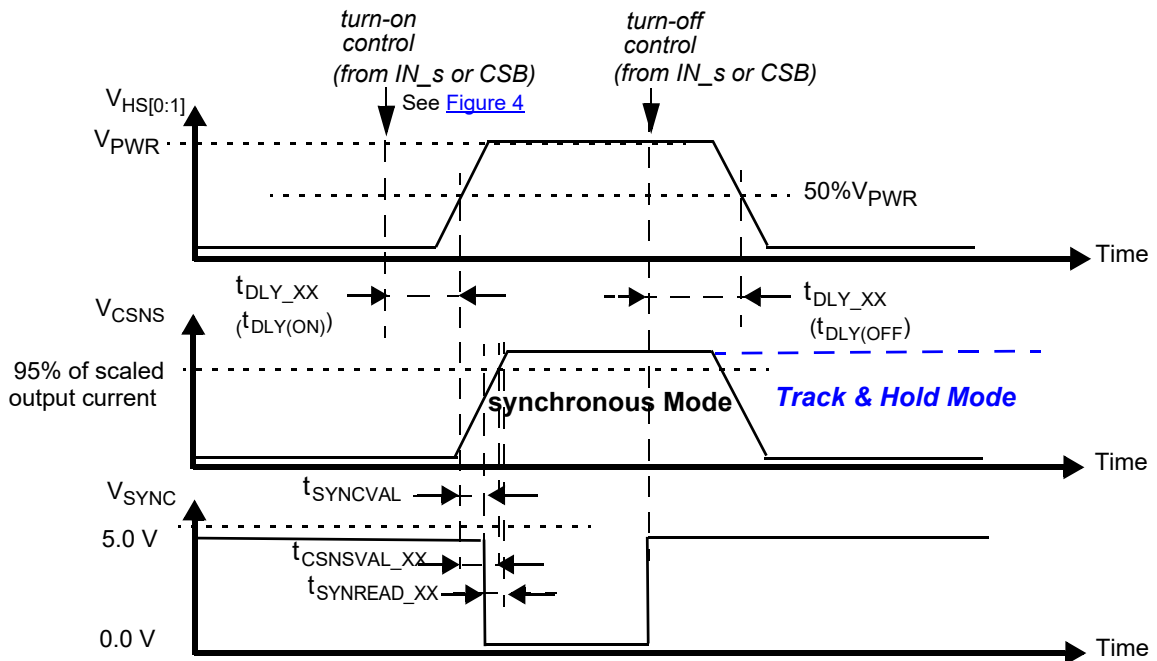

Figure 9. Synchronous and track-and-hold current sensing modes: associated delay and settling time
29. Time required to switch off the channel after detection of overtemperature (OT), overcurrent (OC), SC or UV error (time measured between start of the negative edge on the FSB pin and the falling edge on the output voltage until $V(\text{HS}[0:1]) = 50\%$ of V_{PWR}).
30. Settling time ($= t_{CSNSVAL_XX}$), SYNC output signal delay ($= t_{SYNCVAL_XX}$) and Read-out delay ($= t_{SYNREAD_XX}$) are defined for a stepped load current ($100\text{ mA} < I(\text{LOAD}) < I_{OCLX_A}$ FOR $\text{CSNS_RATIO_S} = 1$, AND $300\text{ mA} < I(\text{LOAD}) < I_{OCLX_A_0}$ FOR $\text{CSNS_RATIO_S} = 0$). See Figure 9 and Output current monitoring \(CSNS\).
The CS pin allows independent current monitoring of channel 0 or channel 1 up to the steady-state overcurrent threshold. It can also be used to sense the device temperature. The different functions are selected by setting bits CSNS1_en and CSNS0_en to the appropriate value (Table 23). When the CSNS pin is sensed during switch-off in the (optional) Track & Hold mode (see Figure 9), it outputs the scaled value of the load current as it was just before turn-Off. When several devices share the same pull-down resistor, the CSNS pins of devices the current of which is not monitored must be tri-stated. This is accomplished by setting CSNS0_en = 0 and CSNS1_en = 0 in the GCR register (Table 10). Settling time ($t_{CSNSVAL_XX}$) is defined as the time between the instant at the middle of the output voltage's rising edge ($HS[0:1] = 50\%$ of V_{PWR}), and the instant at which the voltage on the CSNS-pin has settled to $\pm 5.0\%$ of its final value. Anytime an overcurrent window is active, the CSNS pin is disabled (see Overcurrent detection on resistive and inductive loads). The current and temperature sensing functions are unavailable in Fail-safe mode and in Normal mode when operating without the V_{DD} supply voltage. In order to generate a voltage output, a pull-down resistor is required ($R(CSNS)=1.0$ k Ω typ. and $470 < R(CSNS) < 10$ k). When the current sense resistor connected to the CSNS pin is disconnected, the CSNS voltage is clamped to $V_{CL(CSNS)}$. The CSNS pin can source currents up to about 5.6 mA.
To synchronize current sensing with an external process, the SYNC signal can be connected to a digital input of an external MCU. SYNC is asserted logic low when the current sense signal is accurate and ready to be read. The current sense signal on the CSNS pin has the specified accuracy $t_{SYNCREAD_XX}$ seconds after the falling edge on the SYNC pin (Figure 9) and remains valid until a rising edge is generated. The rising edge that is generated by the SYNC pin at the turn-OFF instant (internal or external) may also be used to implement synchronization with the external MCU. Parameter $t_{SYNCVAL_XX}$ is defined as the time between the instant at the middle of the output-voltage rising edge ($HS[0:1] = 50\%$ of V_{PWR}), and the instant at which the voltage on the SYNC-pin drops below 0.4 V (V_{SOL}). The SYNC pins of different devices can be connected together to save μ -controller input channels. However, in this configuration, the CSNS function of only one device should be active at a time. Otherwise, the MCU does not determine the origin of the SYNC signal. The SYNC pin is open drain and requires an external pull-up resistor to VDD.